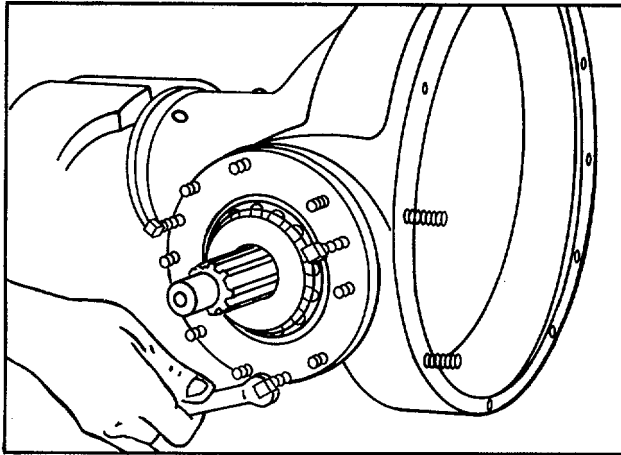

Figure 8.
4. Remove pinion and cage assembly using puller screws in holes provided (refer to Fig. 8).